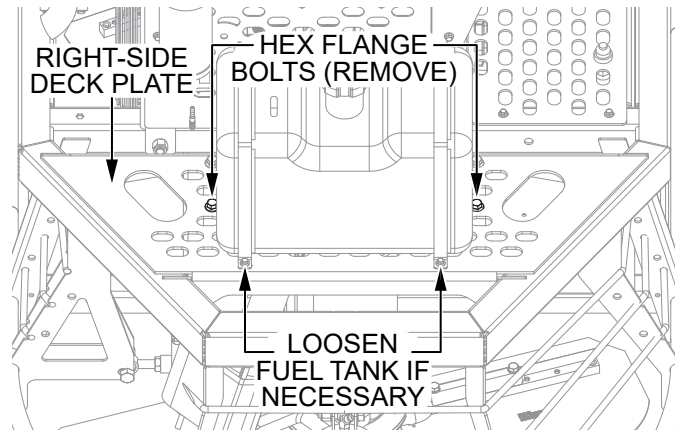

Figure 6. Remove Two Right-Side Trunnion Bolts
- Remove the two outer hex flange bolts (Figure 6) securing the right-side trunnion to the right-side deck plate. It may be necessary to loosen the bolts securing the fuel tank straps to create space for the bolt removal. Keep the bolts for later.